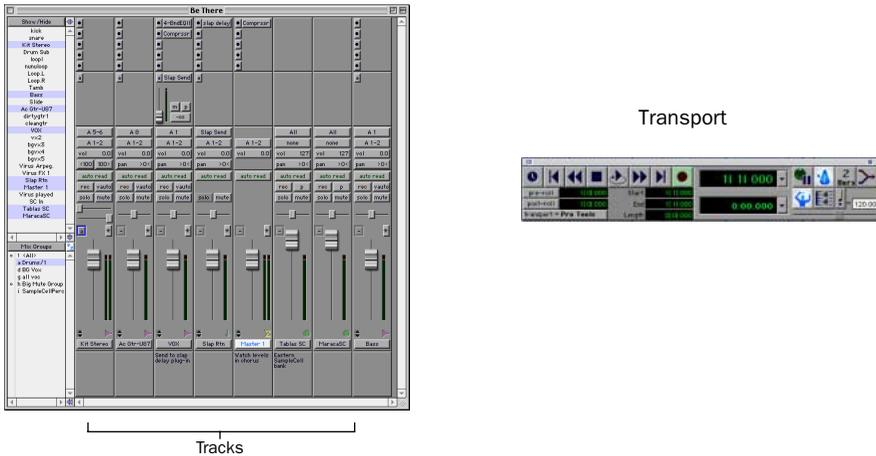

Figure 15. Main session windows
- 6 Choose Save. The new session opens its Mix, Edit, and Transport windows (see Figure 15 on page 45).
The Mix, Edit, and Transport windows are the main Pro Tools work areas (see Figure 15 on page 45). You can show (or hide) any of these windows by choosing show (or hide) commands in the Windows menu.